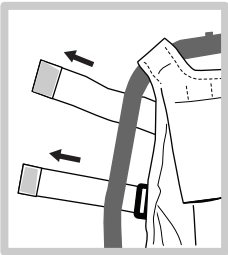

Figure 4
- a. The Velcro straps will attach to the bent leg with the bolts (Figure 4).